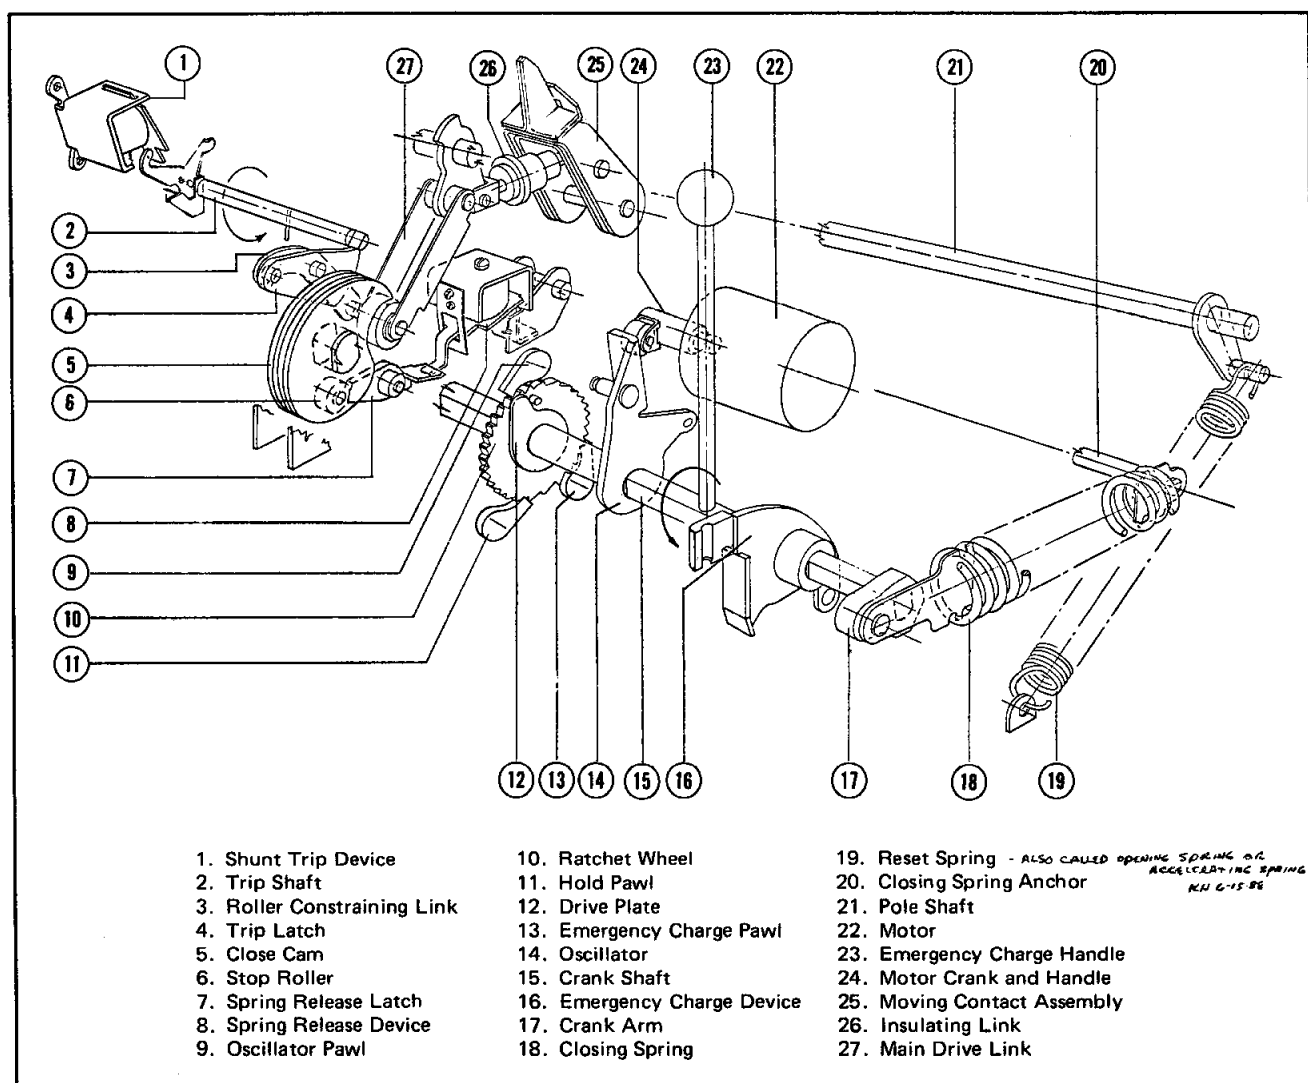

Fig. 14 Arrangement of the Principal Parts of a Power Operated Mechanism. The Close Spring is Shown in the Charged Position
Figure 14 is an isometric diagram of the principal parts of a completely power-operated mechanism.
1. By the spring release device on power-operated breakers, as shown in Figures 14 and 31b.